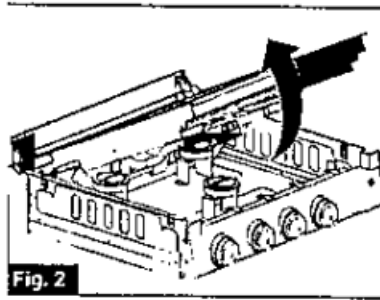

Fig. 2
2. Push back the top glass cover assembly a little and lift up to remove it from the hob. (Fig. 2)